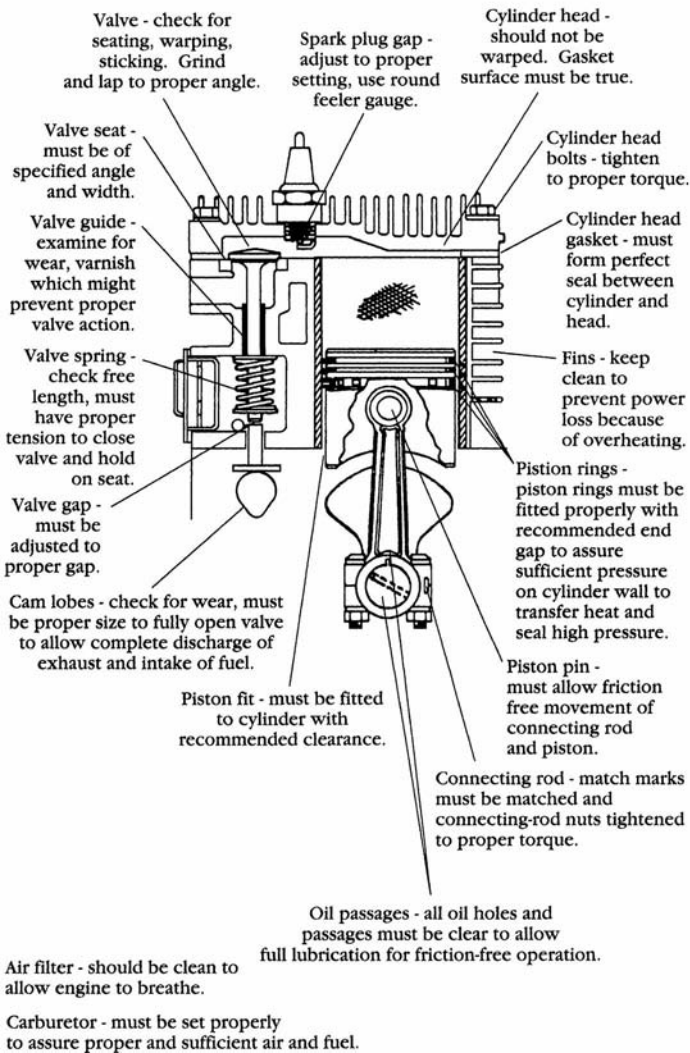

FIG. 7-2. *Factors that affect power output.* Tecumseh Products Co.
- Loss of power: A blown-head gasket is the usual culprit, although any failure of fit, sealing, or lubrication costs power. See Fig. 7-2.